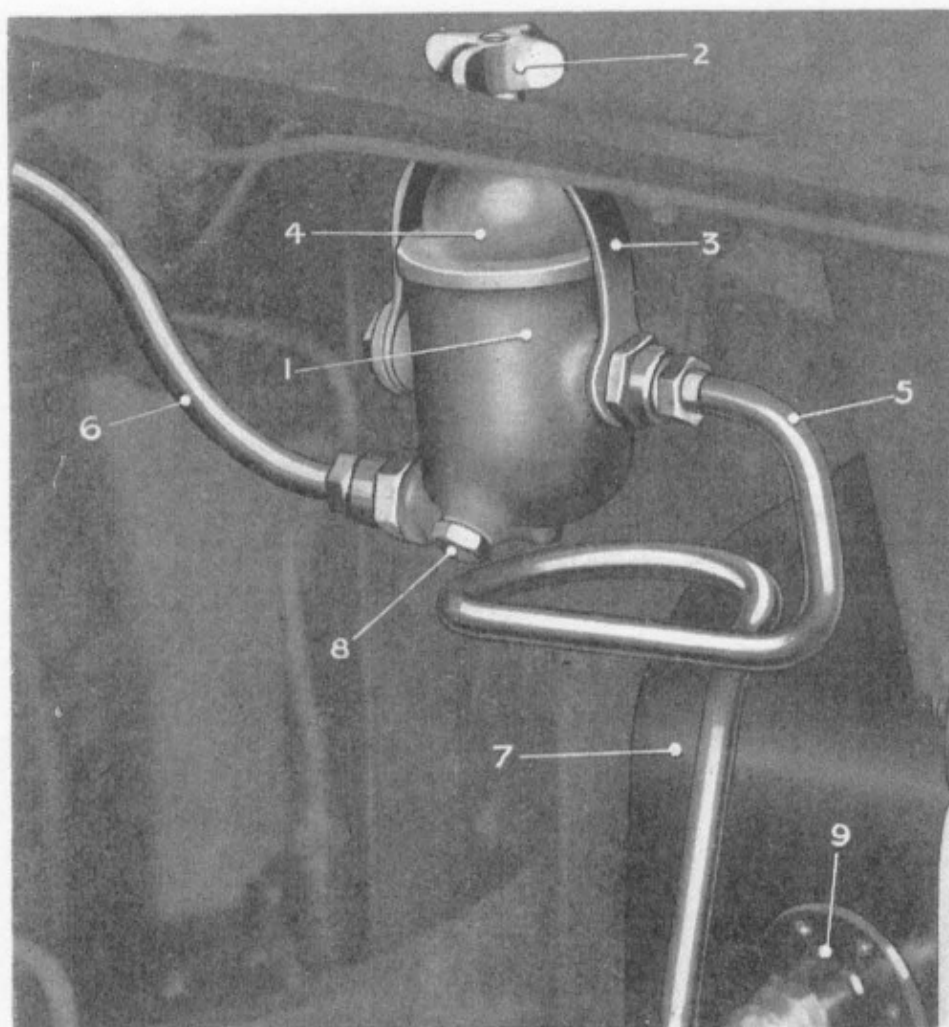

Fig. 12.—FUEL TANK AND STRAINER.
A pipe is arranged along the right-hand side frame member conveying fuel from the tank to the pumps. The pipe is seen at (4). A strainer is provided on this pipe line, being located on the frame cross member immediately in front of the tank, as shown in Fig. 12.
The 18-gallon tank is shown in Fig. 12. The fitting (9) carries the suction pipe. Normally there should be no occasion to disturb these parts.
The rear strainer shown in Fig. 12, is provided with two circular gauzes located above a large settling sump. Fuel passes upwards through these gauzes, and dirt settles on their lower faces and in the sump.
When refitting the cover, care must be taken that the cork washer is sound, and properly in position, and the nut (2, Fig. 12) tightly screwed up. Any leaks on this—the suction side of the pumps—although they may not be apparent by leakage of fuel, will impair the proper functioning of the pumps by admitting air.